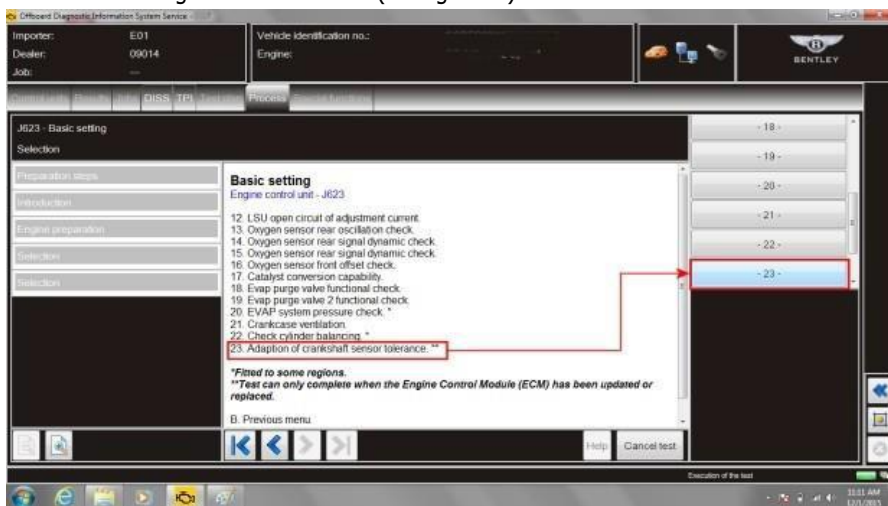

Figure 19
6. Within Basic settings select 23 Adaption of crankshaft sensor tolerance (see Figure 19)